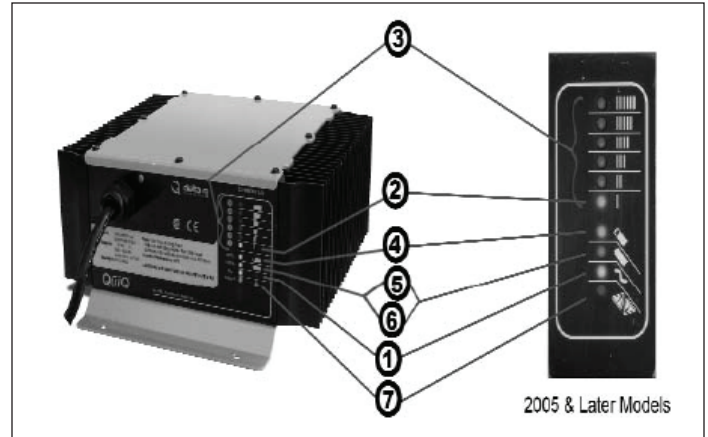

Figure 9-6. Delta-Q Charger and Lights
3. The yellow AC power LED (1, Figure 9-6) should remain illuminated while the charger is plugged into an AC source. If yellow LED (1) is not lit, before replacing charger, confirm the two AC connections supplying the charger on the vehicle are intact. First, check the extension cord receptacle, found on right side of the vehicle's console. Then check the three pronged connection on the short 6 inch AC cord extending from the LED panel. Also confirm the AC source fuse or breaker operation, then contact the Columbia Dealer for assistance.
4. Charger will automatically turn on and conduct a short self-test and battery pack test. All LEDs will flash in sequence, then a trickle current will be applied to batteries until a minimum voltage is reached. Three (3) amperes is displayed as the lowest LED on the Bar Graph. See (2, Figure 9-6).
5. If the batteries meet the minimum voltage requirements of the charger, signifying they are serviceable (chargeable), the charger enters the bulk charging (higher amperage-constant current) stage. The current (A) Bar Graph LEDs (3, Figure 9-6) indicates the electrical current delivered to the batteries as the charger moves through its automatic charge profile. The length of charge time at each level will vary due to battery size and battery charge depletion.
If the charger only reaches the trickle stage (No. 2 above), and does not enter the higher rate Current (A) Bar Graph region with a steady LED lit, the batteries may be excessively discharged, and not capable of automatic charge with the Delta-Q. The charger may time-out with a RED Fault LED (7, Figure 9-6). (*Flash Code Faults - See Red Light Charger Error Codes*). It will then be necessary to follow the *Special Charging Procedure* Section. Also review the Battery Maintenance Procedures.
7. Operator can terminate charging at this point if necessary. The vehicle can be used, but completing the charge cycle is highly recommended, until the 100% Green LED is lit (5, 6, Figure 9-6). Repeated "short charging", leaving the charge short of 100%, will shorten operating cycle distance and reduced battery life.
9. A Green LED continuously lit, indicates the batteries are completely charged (6, Figure 9-6). The charger may now be unplugged from the AC source. If the vehicle is not operated for a length of time, see *Section 3 - Vehicle Storage*.
10. A fault occurring while charging causes the RED FAULT LED (7, Figure 9-6) to flash with a code relaying the error. Some errors may require repair by a qualified technician and others may be simply transient and will automatically recover when the fault condition is eliminated and the Delta-Q cycled by disconnecting the AC source a minimum of 11 seconds. See *Red Light Charger Error Codes*.